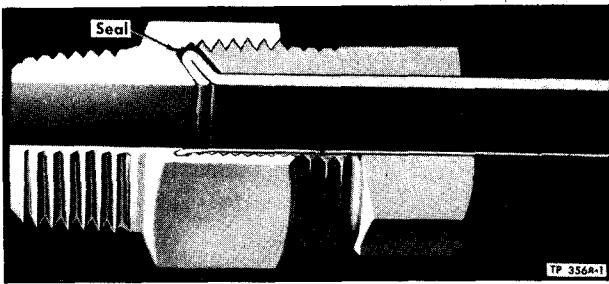

Figure 8—Tubing Connection Seal
3. If this fails to correct leakage, remove line having leaking connection. Slide tube nut back on tube and remove all particles of seal ring from tube and from inside of nut. Slip new seal ring over tube end. Insert tube into connector fitting and seat tube solidly in fitting (fig. 8). Slide seal ring (do not roll) into fitting. Thread tube nut into fitting and tighten slowly and firmly.
4. Remove line having leaking connection. Slide tube nut back on tube and remove all particles of seal ring from tube and from inside of nut. Slip new seal ring over tube end. Insert tube into fitting and seat solidly. Slide seal ring (do not roll) into fitting (fig. 8). Thread tube nut into fitting and tighten slowly and firmly.